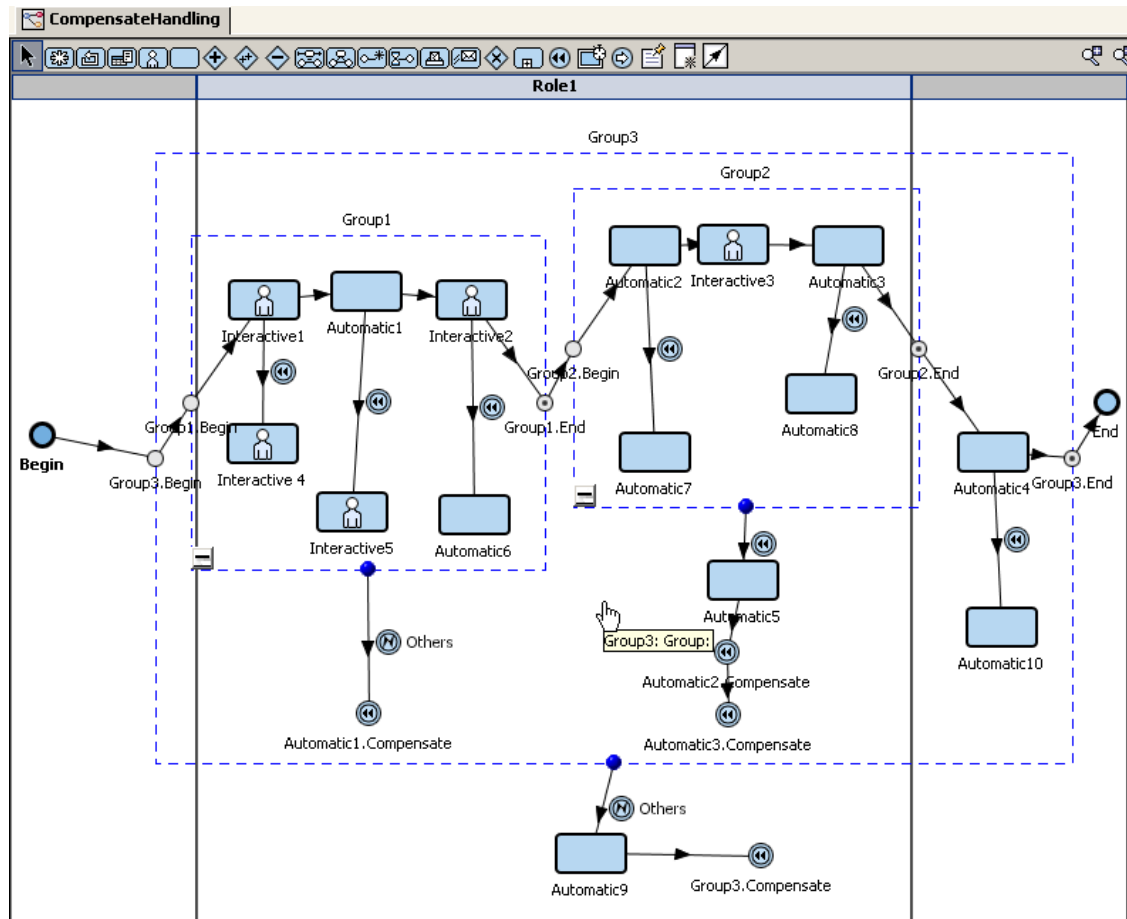

Figure 3 Process using Compensation.
- **Example (Figure 3):** If Group3 's compensation is invoked, it will run the compensation of *Automatic 4*, *Group2* and *Group1*. Since the compensation for *Group1* is not explicitly defined, when the *Compensate* activity in *Group3* calls the compensation for *Group1*, the **FuegoBPM Server** will call the compensation for *Interactive2*, *Automatic1* and *Interactive1* in this order.
- **Example (Figure 3):** *Compensate* activity in *Group3* exception flow calls compensation for activity *Automatic4*, *Group2* and *Group1*.
- **Example (Figure 3):** If activity *Automatic4* fails, an exception is thrown. Therefore, *Group3* exception flow (**Automatic9-->Compensate**) is invoked. In consequence, the *Compensate* activity will call the compensation of *Group2* and *Group1*. In this example, the *Automatic4* compensation flow is not called because compensation is called only in completed activities.